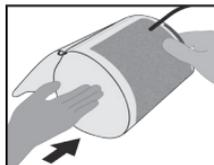
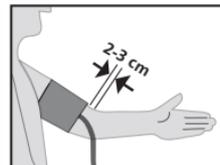

Fig. 1
Fig. 2
- Push the cuff onto the arm (Fig. 1) until the lower edge of the cuff is 2-3 cm above the crook of the arm (Fig. 2).